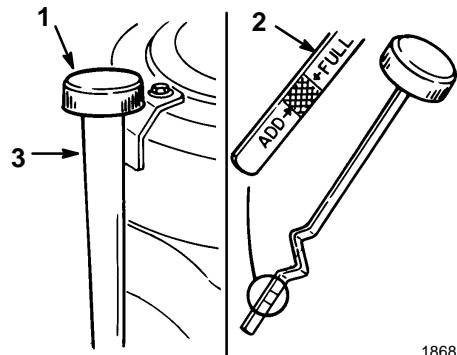

Figure 32
3. Clean around the oil dipstick (Fig. 32) so dirt cannot fall into the filler hole and damage the engine.
4. Unscrew the oil dipstick and wipe the metal end clean (Fig. 32).
5. Screw the oil dipstick fully onto the filler tube (Fig. 32). Unscrew the dipstick again and look at the metal end. If oil level is low, slowly pour only enough oil into the filler tube to raise the level to the “FULL” mark.
7. Slowly pour approximately 80% of the specified amount of oil into the filler tube (Fig. 32). Now check the oil level; refer to Checking Oil Level, page 33, steps 4–5.
5. Slowly pour approximately 80% of the specified amount of oil into the filler tube (Fig. 32). Now check the oil level; refer to Checking Oil Level, page 33, steps 4 and 5.